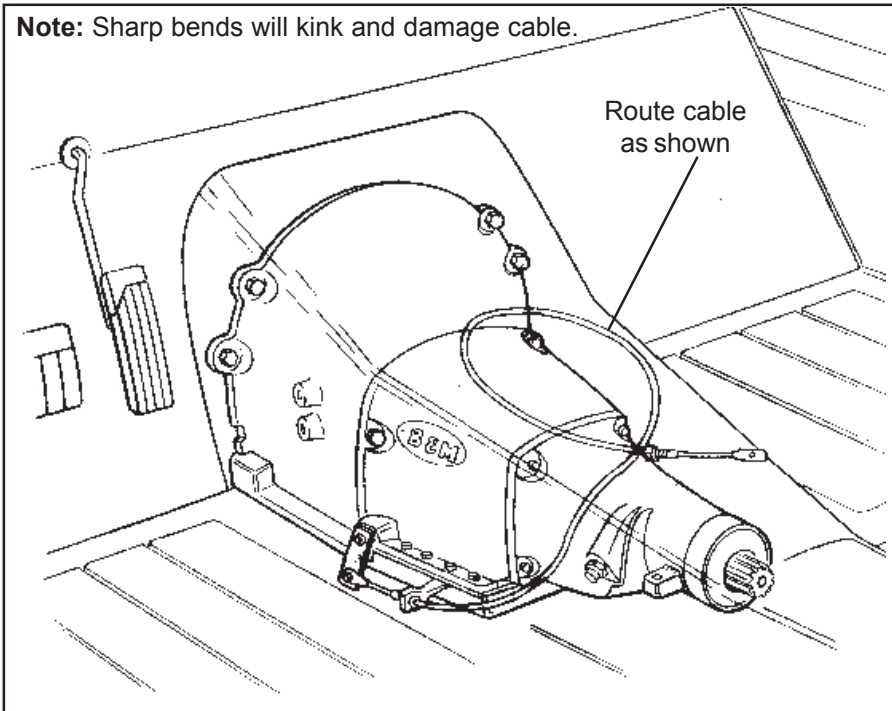

Figure 3
STEP 5. Route the shifter cable according to **figure 3**. Avoid kinks and sharp bends and route the cable away from hot engine or exhaust parts.